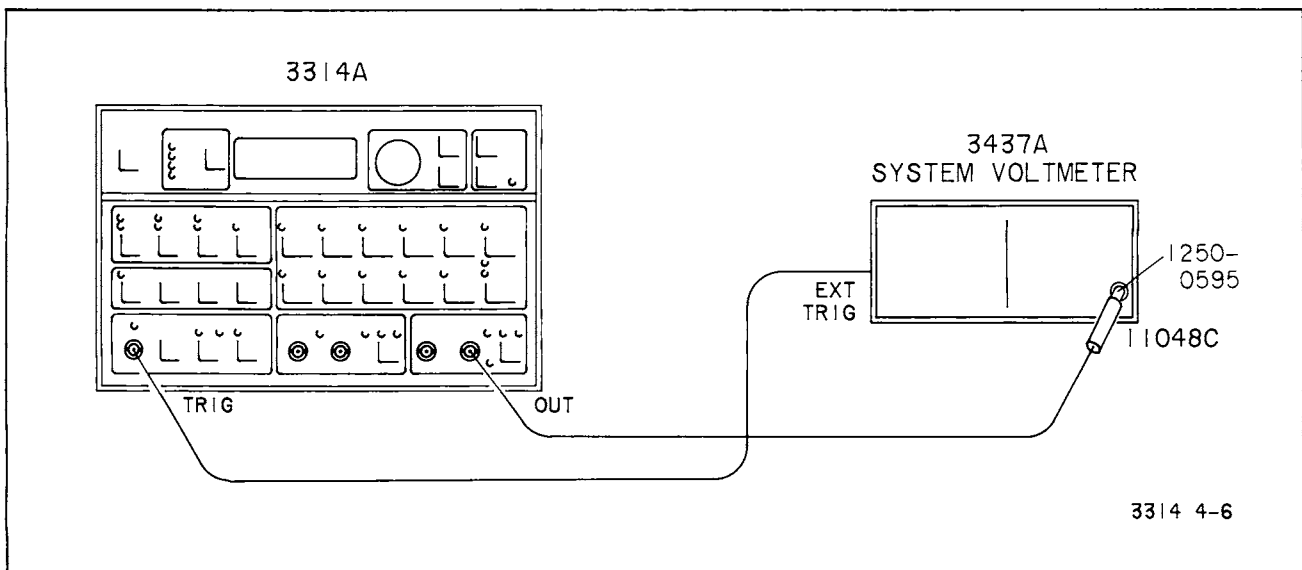

Figure 4-6.Start/Stop Phase Accuracy
D. Connect the 3314A to the Digital Voltmeter as shown in Figure 4-6.